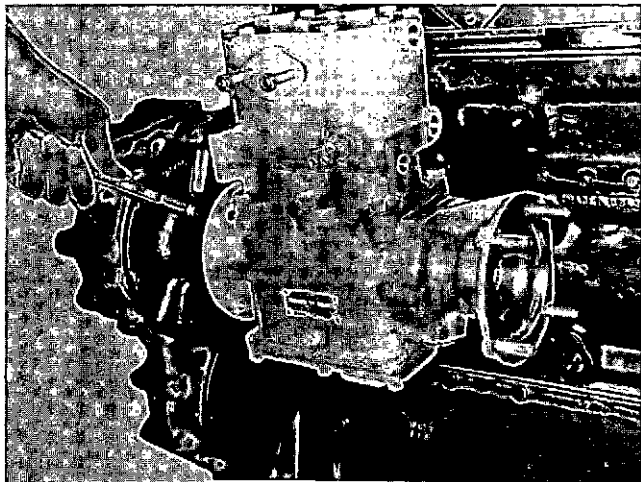

Fig. 14-1-79, V414212. Installing Bendix-Westinghouse compressor
2. With a new gasket in place, position coupling over fuel pump/compressor drive shaft; secure compressor to drive housing with lockwashers and capscrews. Fig. 14-1-79.